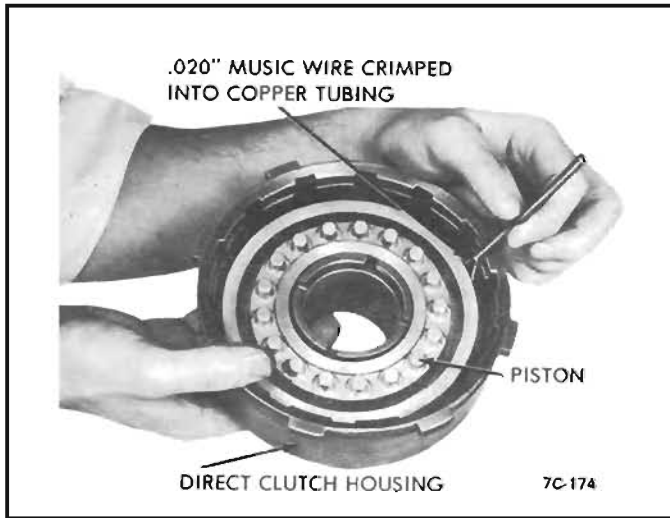

Figure 60 Direct Clutch Piston Installation
3. Install the direct clutch piston into housing with the aid of a piece of .020" music wire crimped into copper tubing. Use a liberal amount of transmission fluid during assembly. See Figure 60.